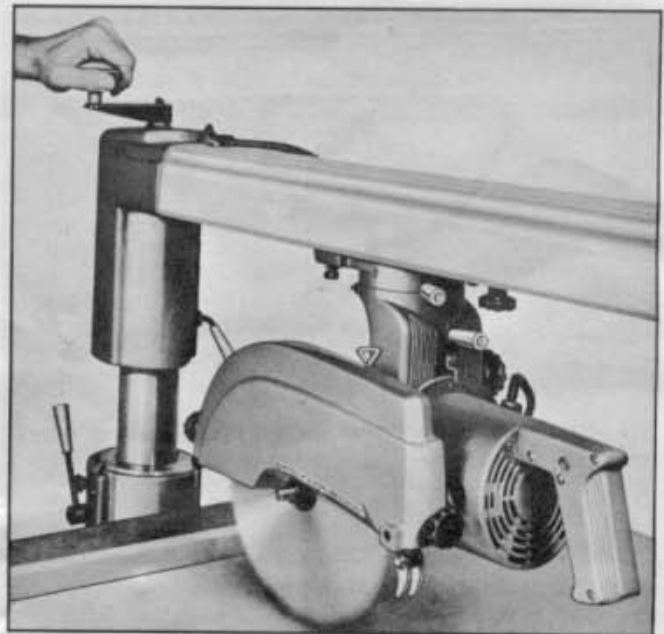

Fig. 16
7. Lower radial arm until blade cuts into table top or auxiliary table top if used 1/32 inch. (THIS IS ALL THAT IS NECESSARY). See fig. 16.